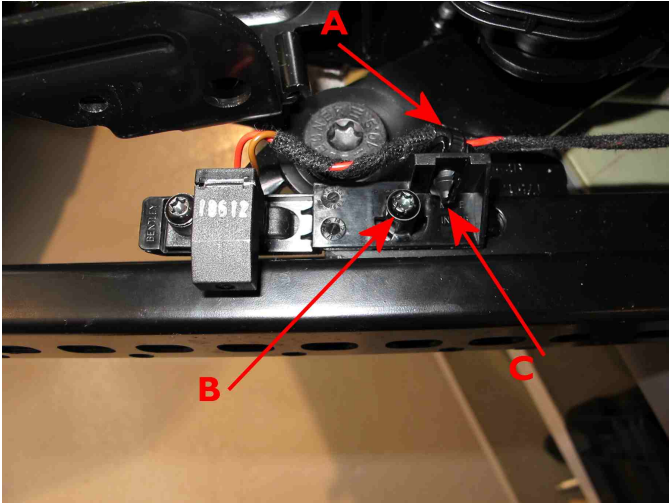

Figure 14
4. Referring to Figure 14 (Point A) cut the cable tie which secures the boom to the sensor bracket